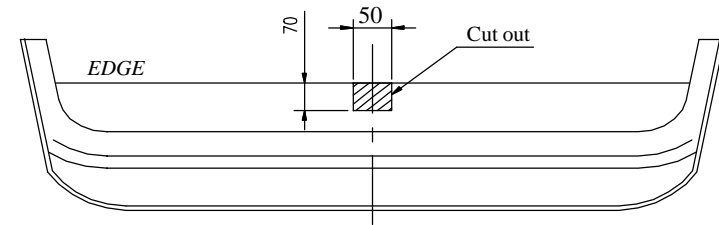

Fig. 2
2. In bottom part of the bumper cut out the hole as show in the fig. 2
4. Put bar of the towbar (pos. 1) into the chassis member and fix with bolts M10x30mm (pos. 7), use big washers $\varnothing 35 \times \varnothing 12 \times 3 \text{mm}$ (pos. 11).
5. Put brackets (pos. 4 and 5) to the rear piece and fix it through holes pos. A to the bar of towbar using bolts M8x30mm (pos. 8), use big washers $\varnothing 25 \times \varnothing 9 \times 2 \text{mm}$ (pos. 12).
6. Through holes (pos. B) in brackets (pos. 4 and 5) fix nuts M8 with big washers $\varnothing 25 \times \varnothing 9 \times 2 \text{mm}$. Take care at the torque moment - **10 Nm**.
7. Through holes (pos. C) in brackets (pos. 4 and 5) make holes with drill $\varnothing 9 \text{mm}$, and next fix with bolts M8x30mm (pos. 8).
8. Fix tow-ball (pos. 2) and socket plate (pos. 3) by bolts M12x75mm (pos. 6) from accessories.